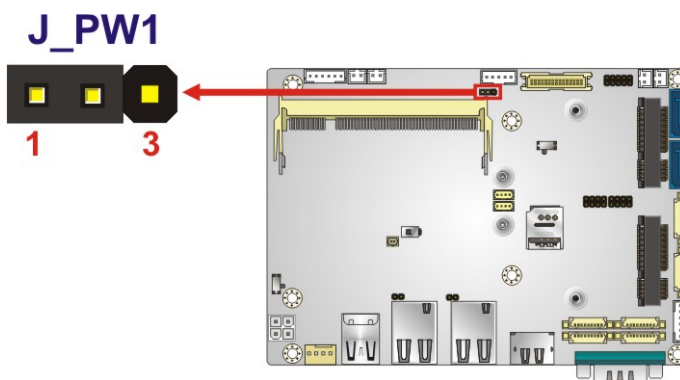

Figure 4-12: LVDS Voltage Select Jumper Location
- Jumper Location:** See Figure 4-12